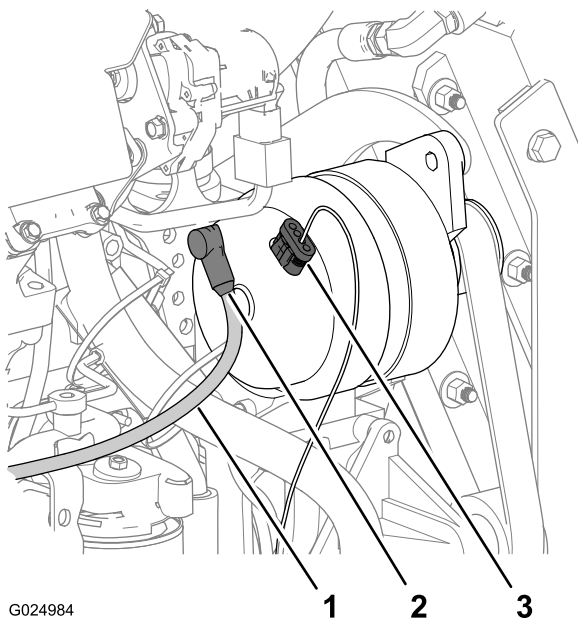

Figure 122
1. At the alternator, slide the boot off the terminal and stud at the back of the alternator (Figure 122).
3. Remove the 4-socket connector for the voltage-sense wire from the 4-pin connector on top of the alternator (Figure 122).
2. Connect the 4-socket connector for the voltage-sense wire to the 4-pin connector on top of the alternator (Figure 122).
3. Assemble the terminal of the charge wire onto the stud at the back of the alternator (Figure 122).
5. Align the boot of the charge wire over the terminal and stud (Figure 122).